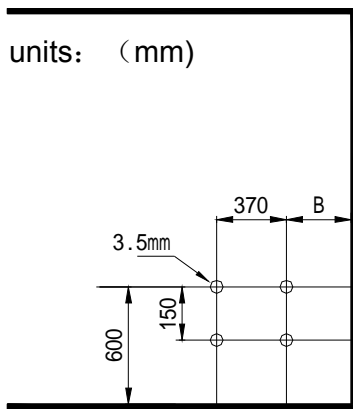

Fig 7A
- (1) refer the installation drawing fig 7A, 7B ,Fix screws and hang sauna heater on wall